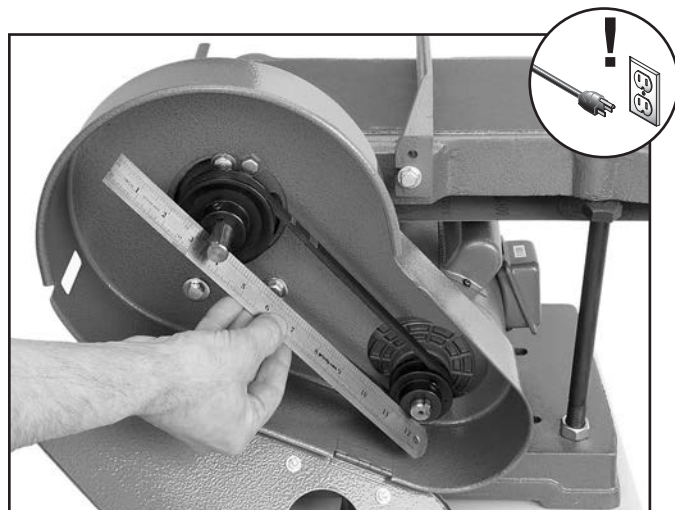

Figure 90. Checking pulley alignment.
5. Place a 12" straightedge across both pulleys, as shown in **Figure 90**.
6. Loosen the set screw on the pulley where you noticed the gap, then adjust the pulley so it touches the bottom of the straightedge when it is extended across both pulleys, as shown in **Figure 90**.